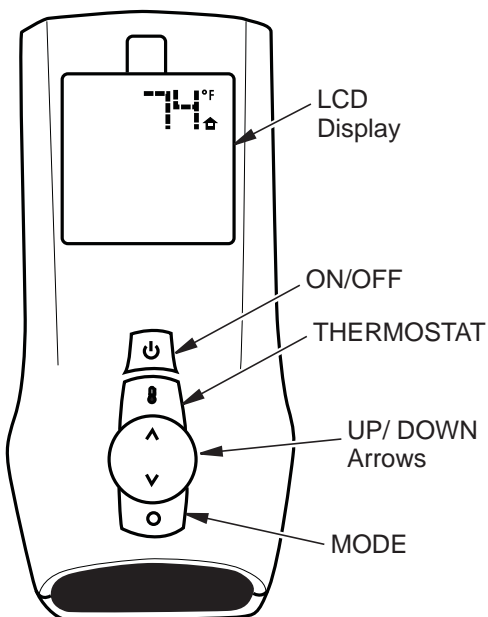
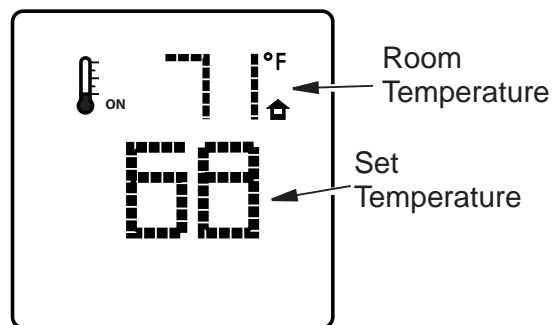

Figure 37 - Hand-Held Remote Control
Figure 39 - Room Temperature Setting
11. Select manual flame height function by pressing MODE button on remote until a flame is shown in lower left corner of display. Use the UP/DOWN arrow button to set desired flame height (see **Figure 37, Page 19**).
Push ON/OFF button and burners will come on in high position (see **Figure 37**). A beep from the receiver confirms the command.
This function allows you to control the height of the flames through 5 levels. Select manual flame height function by pressing MODE button until a flame is shown in lower left corner of display. Use the UP/DOWN arrow button to set desired flame height (see **Figure 37**). A beep from the receiver confirms the command.
To activate, press THERMOSTAT button on remote control (see **Figure 37**). The word ON will appear to the right of temperature bulb graphic on display (see **Figure 39**). Use UP/DOWN arrow button to set desired room temperature. Control system will cycle fireplace on or off to maintain selected temperature.